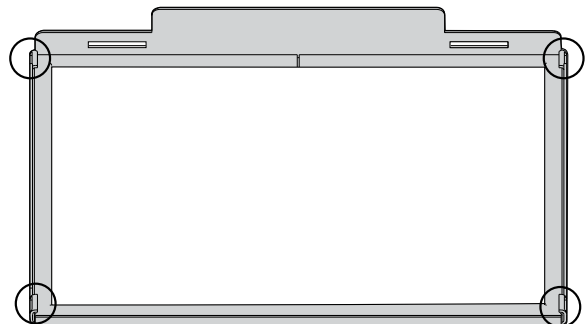

Figure 49. Bend the retainer tabs back enough to release the glass panel.
3. The glass panel is held in place by four tabs on the frame. Use a screwdriver or small pliers to pry these up enough to release the glass panel. See fig. 49.